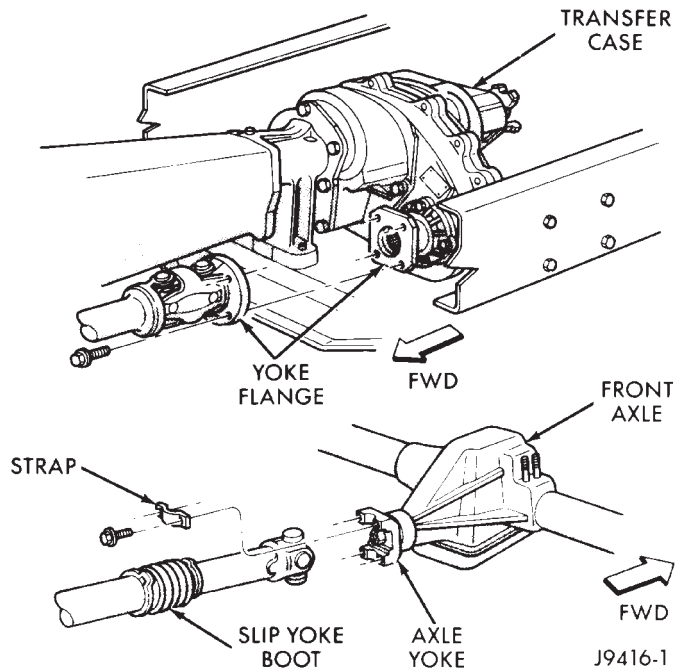

Fig. 12 Front Propeller Shaft
(3) Mark a line across the propeller shaft yoke and the pinion shaft yoke for installation reference.
(4) Remove the universal joint strap bolts at the pinion shaft yoke (Fig. 12).
(5) Remove the bolts holding the propeller shaft to the transfer case yoke flange.
(6) Remove the propeller shaft.